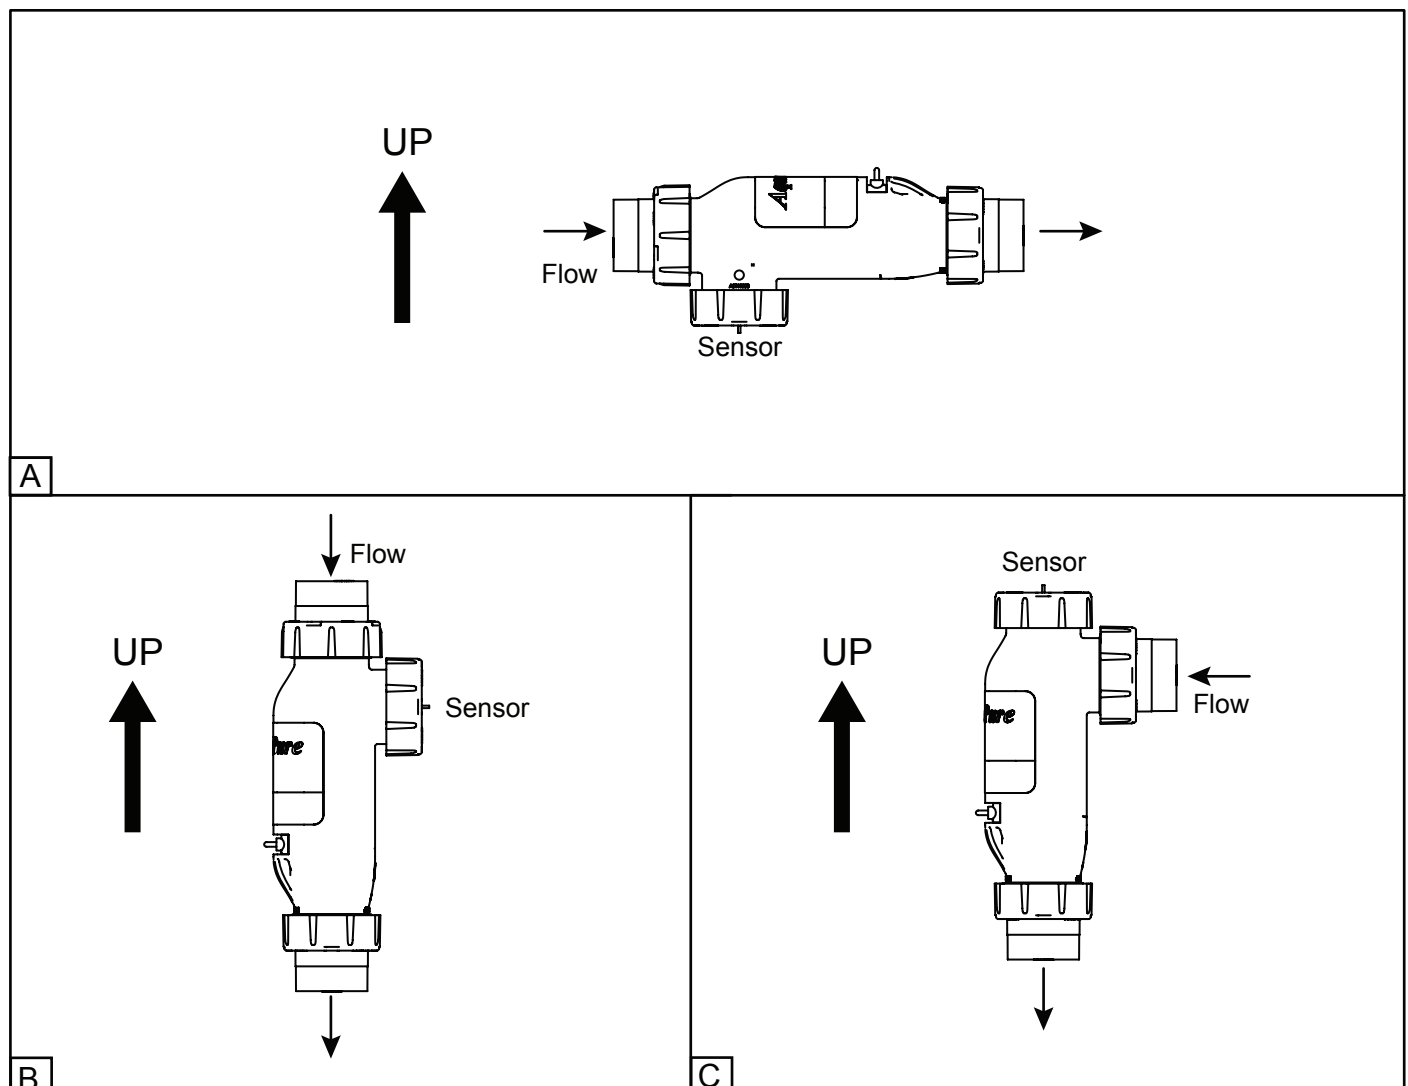

Figure 3. Chlorine Generator Cell and Sensor Orientation with Flow Direction
2. It is recommended that the flow/temp/salinity sensor and electrolytic cell be installed in the pool return line after the filter and heater. The cell can be installed in either a horizontal or a vertical position. See Figure 3.